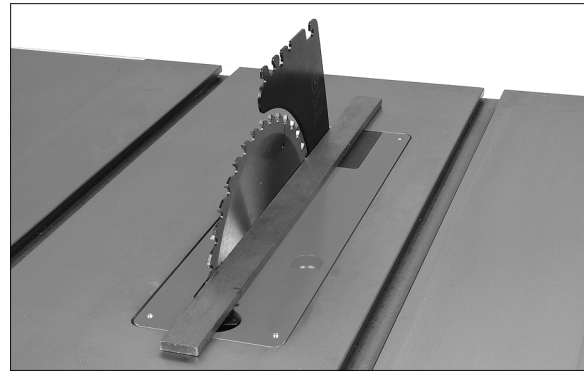

Figure 8-6
3. Place a straight edge on table so it rests against blade and riving knife. See Figure 8-6. Rotate blade so that top of blade tooth touches straight edge.